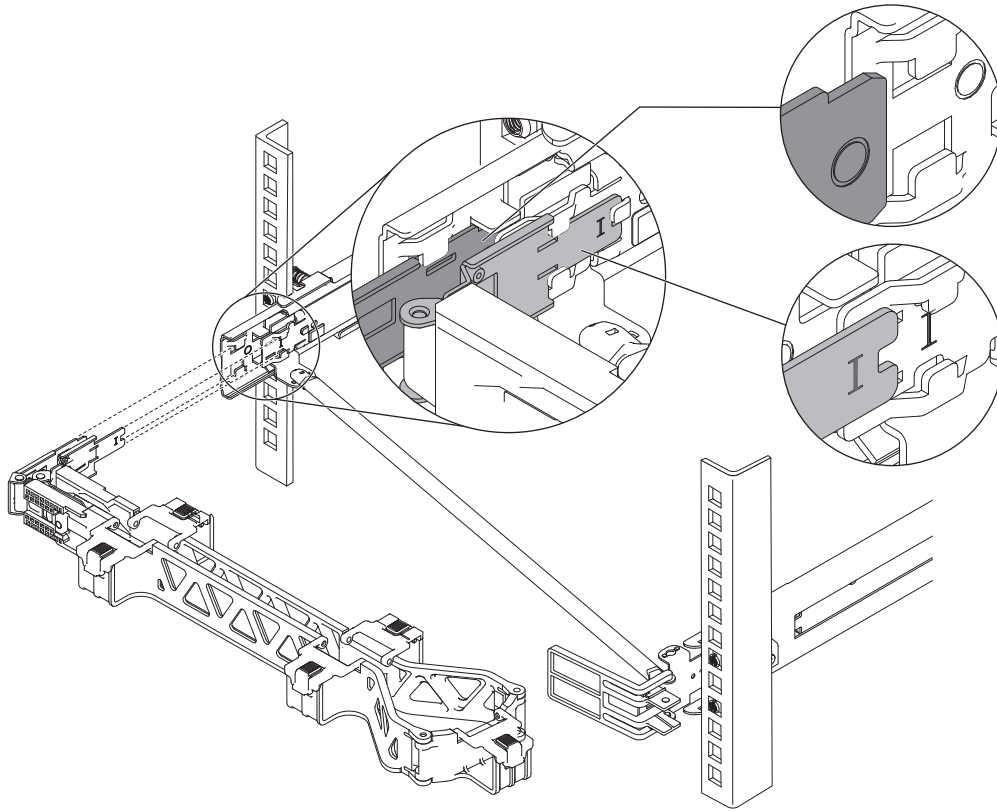

Figure 30. Installing the cable management arm stop bracket
4. Install the cable management arm stop bracket, as shown by Figure 30 on page 41.